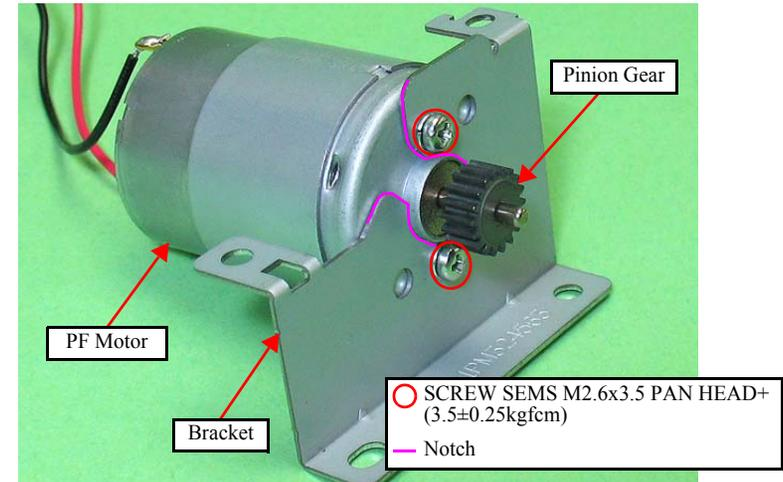

Figure 4-71. Removing the PF Motor (4)
- When installing the PF Motor, insert the black cable over the red one. (See Fig.4-71.)